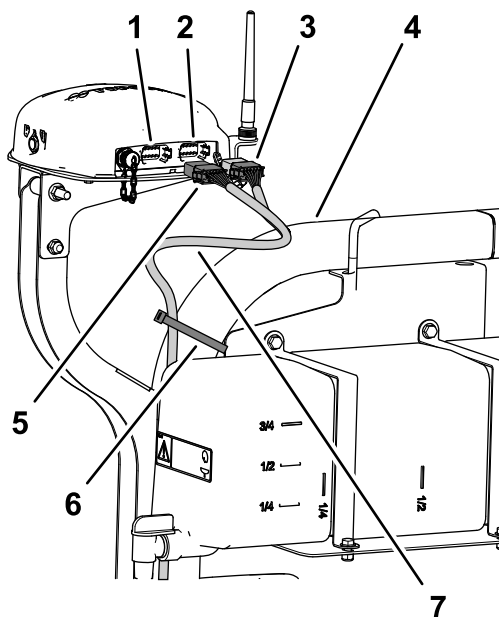

Figure 196
2. Route the 390 cm (153-1/2 inch) branch of the data harness along the right ROPS tube with the 12-socket connector (gray) and 12-socket connector (black) up toward the navigation receiver (Figure 196).
7. Secure the 390 cm (153-1/2 inch) branch of the data harness to the right ROPS tube with 2 cable ties as shown in Figure 196.